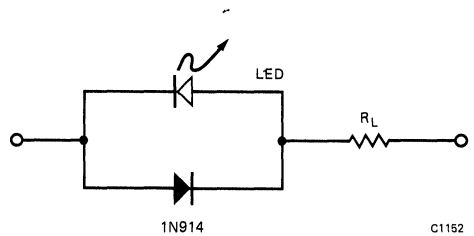
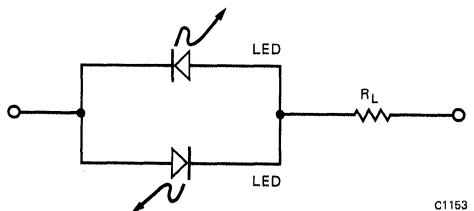

Fig. 7a. Bipolar Operation
Fig. 7b. Bipolar Operation
**AC Operation.** LED's should be operated in the forward direction only. Therefore, the LED circuit must provide reverse-voltage protection if applied voltage is expected to exceed the  $V_R$  maximum rating of the LED. Figure 7a shows a circuit having an ordinary silicon diode (e.g., 1N914) placed "back-to-back" with the LED. Figure 7b shows an alternate and more novel approach that utilizes two LED's in parallel. If no current flows, neither LED lights. But as long as current does flow (in either direction), one of the LED's lights and one does not (because one LED will be conducting)